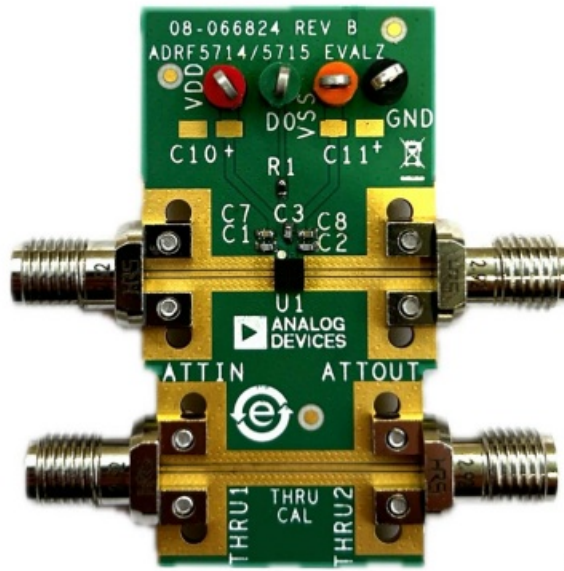

Figure 1. ADRF5715-EVALZ Evaluation Board Photograph
- This user guide describes the ADRF5715-EVALZ evaluation board, which is designed to simply evaluate the features and performance of the ADRF5715. A photograph of the evaluation board is shown in Figure 1.